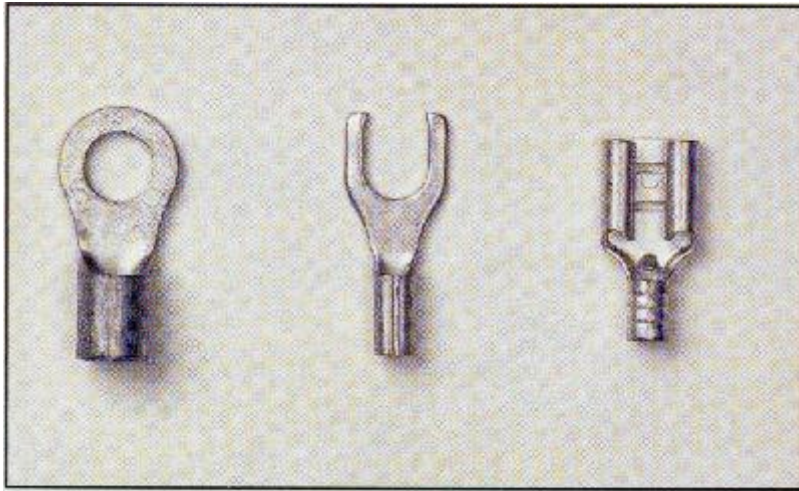
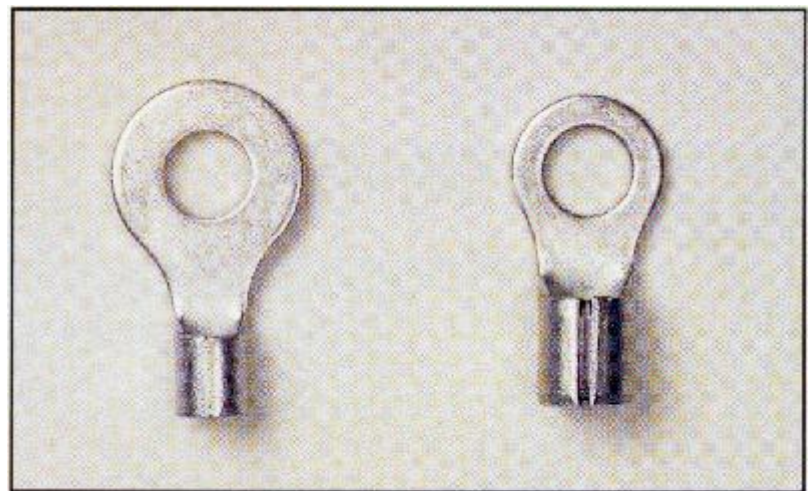

FIGURE 1
FIGURE 2
variety of forms, including insulated and non-insulated varieties. Lugs come in open configuration and closed shapes. They also can be obtained to fit flanged protuberances called "spaces" (see Figure 1).
**I'm unsure as to the significance of the terminals shown in Figures 1 and 2. One might infer that terminals in Figure 1 are not recommended while those in Figure 2 are. Figure 1 includes open spade and Fast-On terminals. In fact, the Fast-On terminal is an**
For aircraft, auto and marine use, the closed ring lug is preferred since they are less likely to work loose from vibration and even if loose they may provide some connection until the screw holding them is completely vibrated out and gone (see rules to live by at the end of this article). Also (as Bob himself recommends) always use full closed ferrule lugs, never accept a split or open-ferrule (see Figure 2) for reasons that will be obvious when we get into crimping.